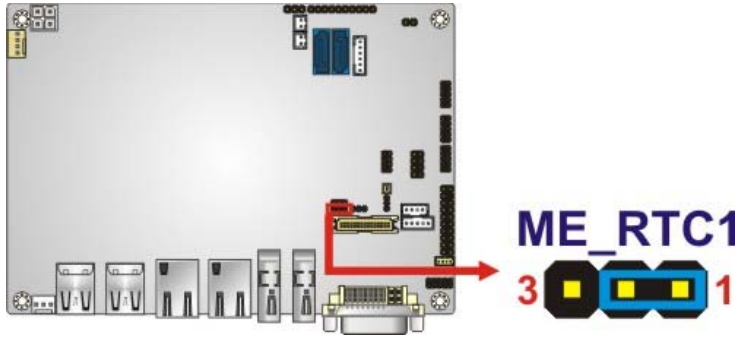

Figure 4-5: Clear ME RTC Registers Jumper Location
- Jumper Location:** See **Figure 4-5**